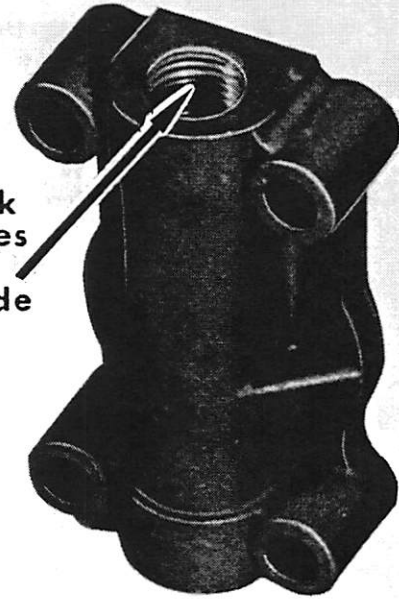

Figure 1. Check Valve Location
*NOTE: Model 1966-67-68 small one and 2-cylinder fuel pumps had check valves pressed into pump housing. Check valves may be replaced individually or with the housing. (Figure 1)*